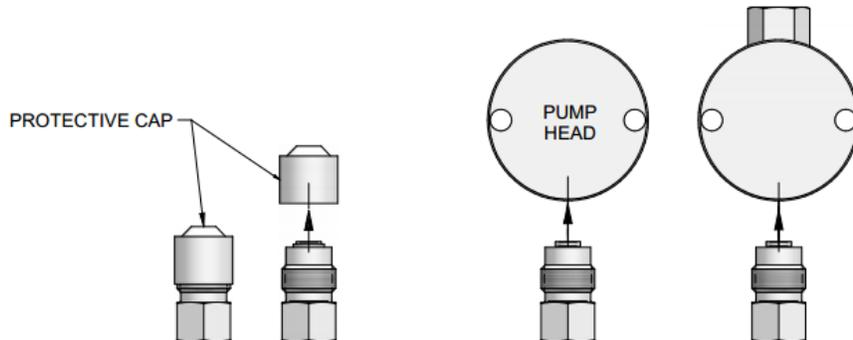

Figure 9, New Check Valves from package and proper orientation.
If this procedure does not return the pump to proper performance, the check valves should be replaced. An example of new check valves from their package can be seen in *Figure 9* below.
3. Hold one new check valve assembly as shown in *Figure 9*, and unscrew the protective cap. With the check valve assembly maintained in the above position, thread it into the proper pump head port until it is snug. Install the other check valve assembly similarly.